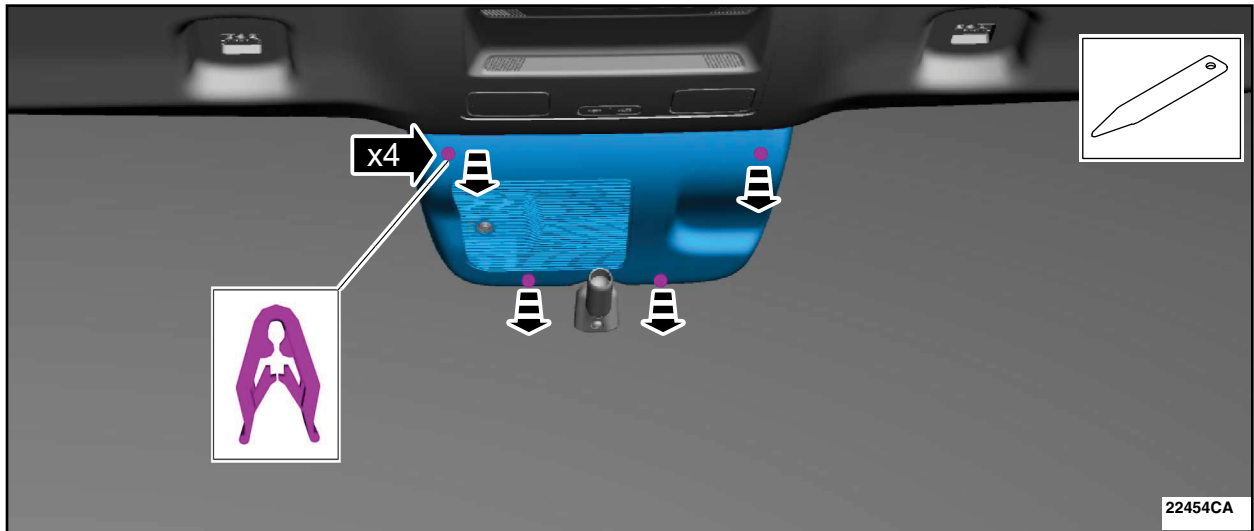

FIGURE 11
14. Release the clips and remove the Image Processing Module A (IPMA) cover. See Figure 11.